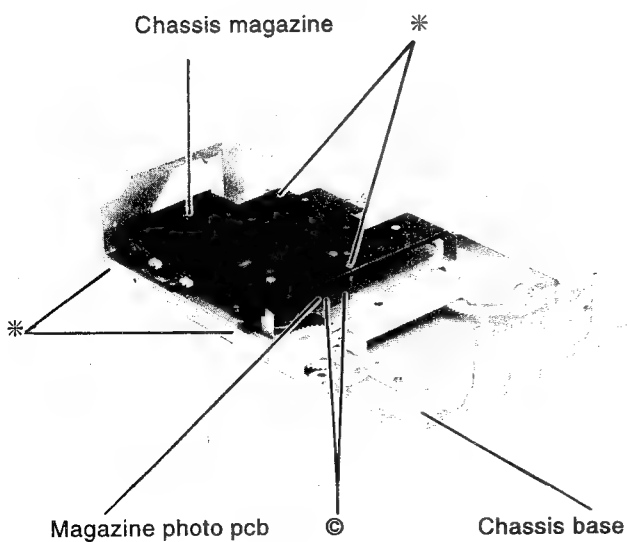

Fig 24
- Magazine photo pcb (Fig. 24).